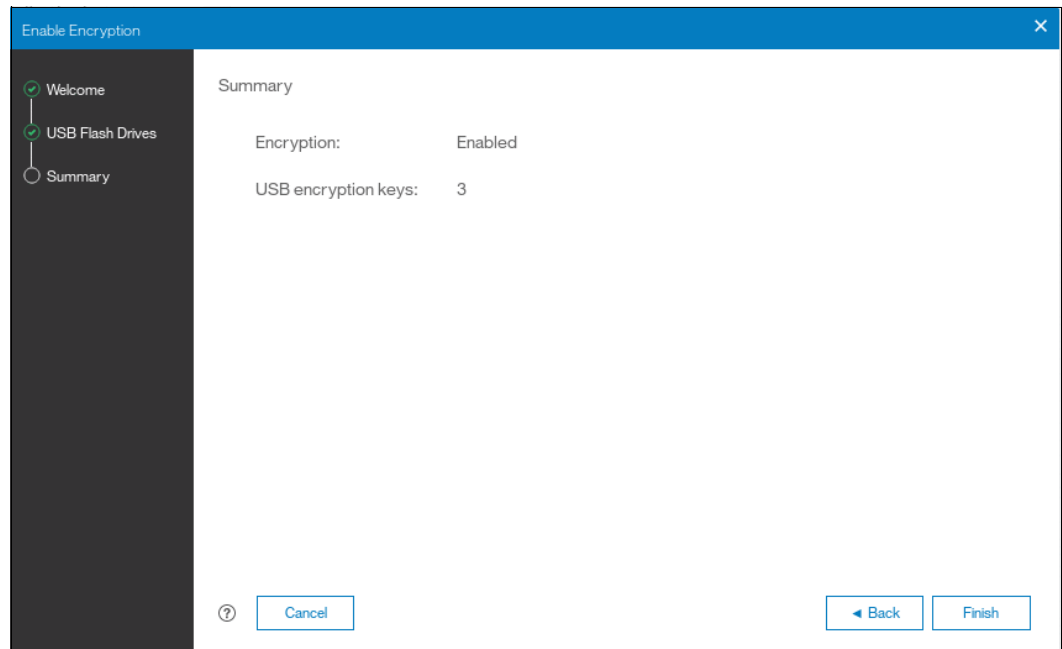

Figure 7-31 Commit the encryption enablement
6. The number of keys that were created is displayed in the Summary tab, as shown in Figure 7-31 on page 264. Click **Finish** to finalize the encryption enablement.